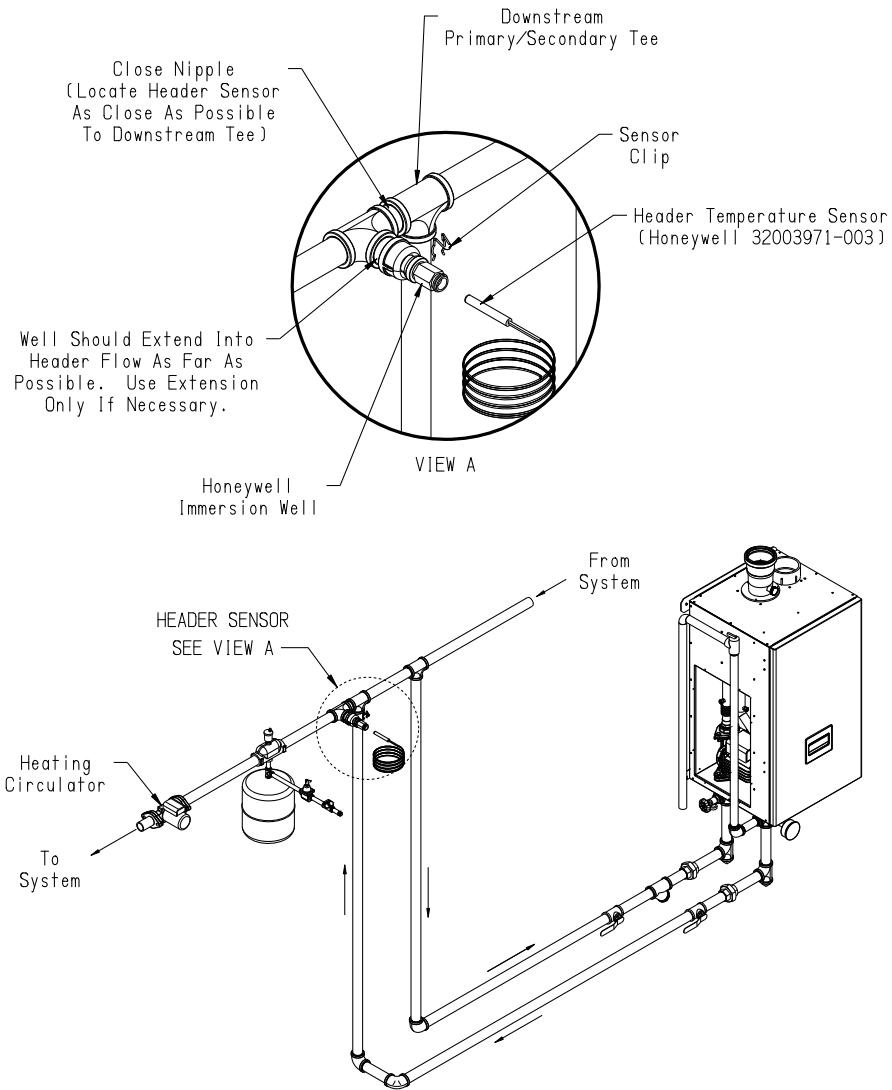

FIGURE 10.4: PROPER INSTALLATION OF HEADER SENSOR
- Header Sensor - When this sensor is installed and enabled, the boiler will attempt to maintain the target water temperature in the header rather than in the supply. Where the system flow rate varies widely, the use of a header sensor allows the temperature of the water being sent to the radiation to be more accurately controlled. Use only the Honeywell 32003971-003 sensor listed above. Locate this sensor immediately downstream of the second primary-secondary Tee (Figure 10.4). Installation of this sensor in a well, as opposed to on the surface of the header, is highly recommended. The sensor wiring should be routed away from sources of electrical noise. Where it is impossible to avoid such noise sources, wire the sensor using a 2 conductor, UL Type CM, AWM Style 2092, 300Volt 60°C shielded cable. Connect one end of the shielding on this cable to ground. See Section XII for information on enabling the header sensor.